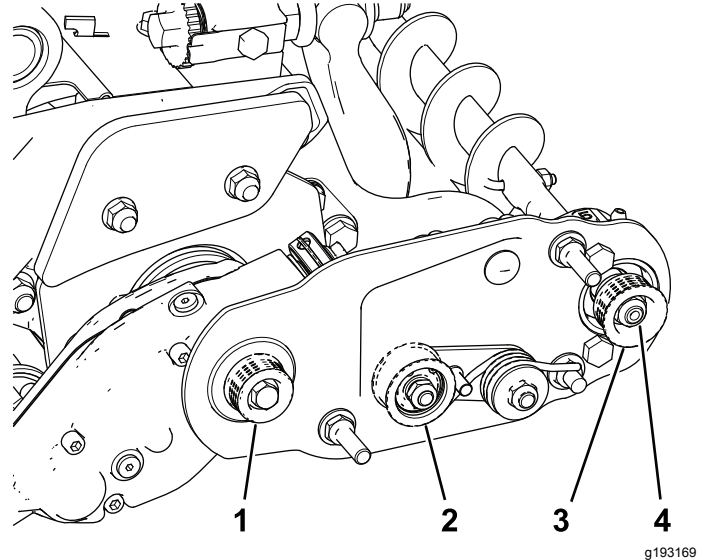

Figure 22
1. The driven pulley (at the roller-brush shaft) can move in or out (Figure 22).
2. While rotating the reel, which rotates the drive pulley, pry the belt off the drive pulley (Figure 22).
3. Remove the locknut securing the driven pulley to the brush shaft (Figure 22 or Figure 23).